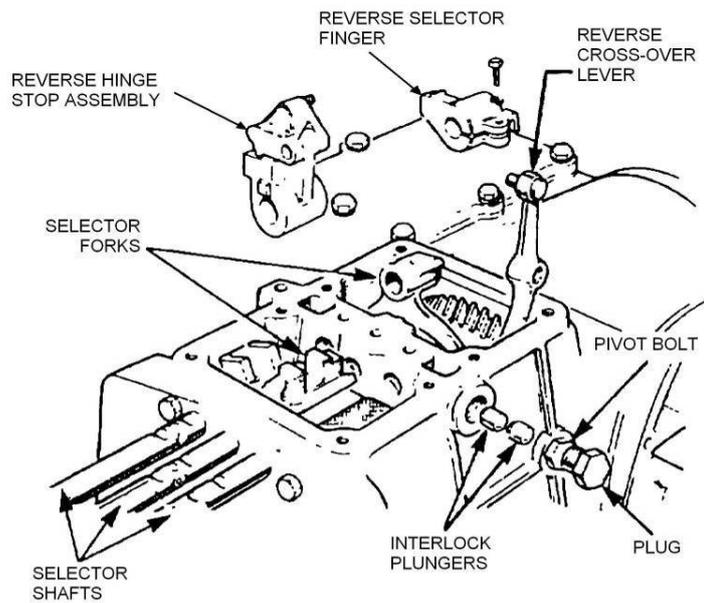

Figure 197 Installation of the Selectors
- aaa. Position the reverse cross-over lever in the transmission case and locate the selector pad in the reverse idler groove. Install the pivot bolt and engage the cross-over lever pivot hole. Apply Loctite 241 to the bolt threads only. Tighten the pivot bolt securely (Figure 197).